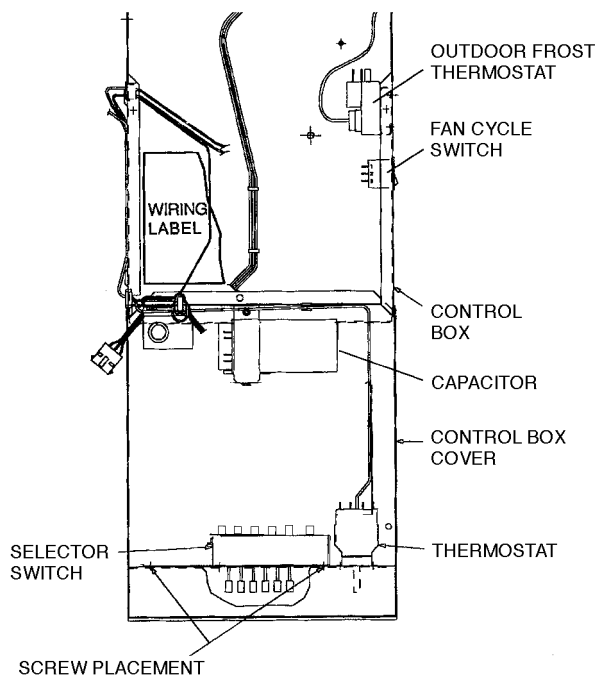

FIGURE 61 — COMPONENT LOCATIONS IN OPEN CONTROL BOX
2. Open the control box (Figure 61) as detailed in the GENERAL DISASSEMBLY section of this manual.
3. Remove the 3 wires from the fan cycle switch. See Figure 61 for location.
5. Remove the 2 screws mounting the switch and remove switch. See Figure 61.